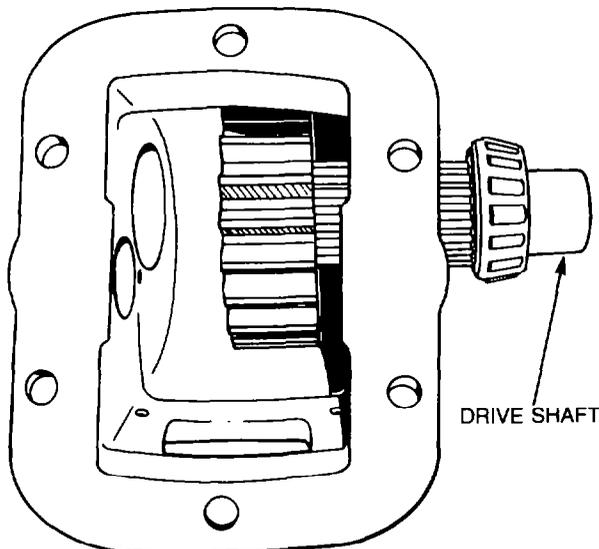

Figure 191 — Installing Drive Shaft and Gear
- b. Install a circlip onto the drive shaft then position the shaft partially in the housing, ensuring that the output end of the shaft is on the correct side of the housing. Install the drive gear in the housing and align with the drive shaft. Feed the drive shaft into the housing and through the drive gear (see Fig. 191).